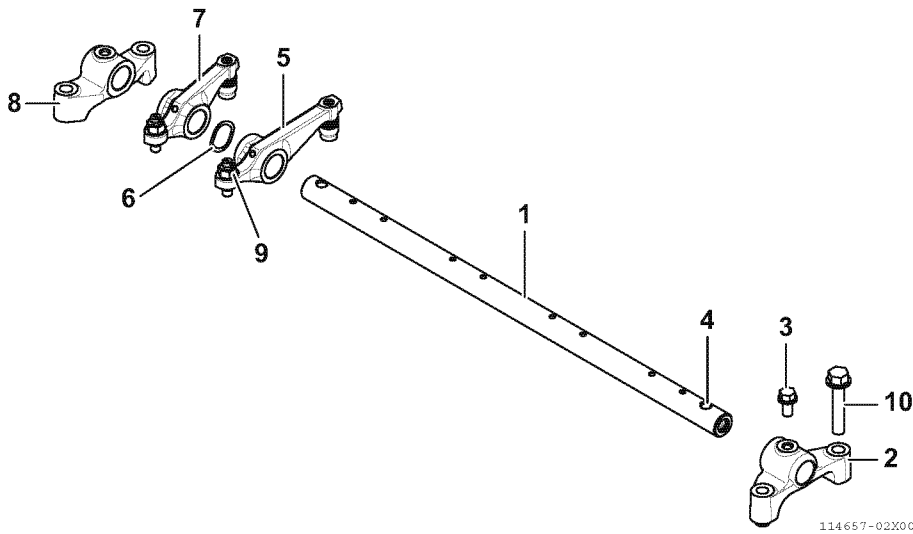

Fig.14-20
1. Lubricate the rocker arm shaft (1, Fig.14-20).
2. Insert the rocker arm shaft into the rocker arm shaft support B (2, Fig.14-20). The rocker arm shaft fits tightly in the rocker arm support B. Fix the support with a padded vise, and twist the rocker arm shaft to push it in.. Attach the fixing bolt (3, Fig.14-20) of the rocker arm shaft support B while matching with the hole position of the shaft (4, Fig.14-20).
3. In the order of rocker arm (intake) (5, Fig.14-20), wave washer (6, Fig.14-20), rocker arm (exhaust) (7, Fig.14-20), and rocker arm shaft support A (8, Fig.14-20), insert into the rocker arm shaft with the same position as disassembly, with the same valve and push rod combination.
4. Fig.14-20 indicates the parts configuring one cylinder. The same direction applies for the rest of the cylinders as well.
2. If the valve adjustment screw (9, Fig.14-20) is removed, attach the valve adjustment screw and the locknut.
3. Install the rocker arm assembly to the cylinder head, and tighten the fixing bolts (M10 × 45) (10, Fig.14-20) of the shaft support with the specified torque.